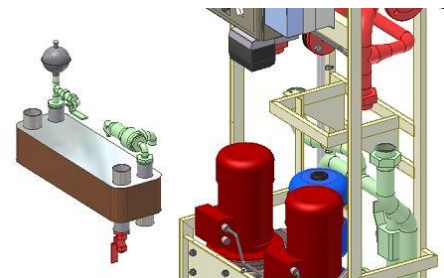

Figure 4.2-4
3. Carefully pull / lift / turn out the HX11 (Figure 4.2-4).